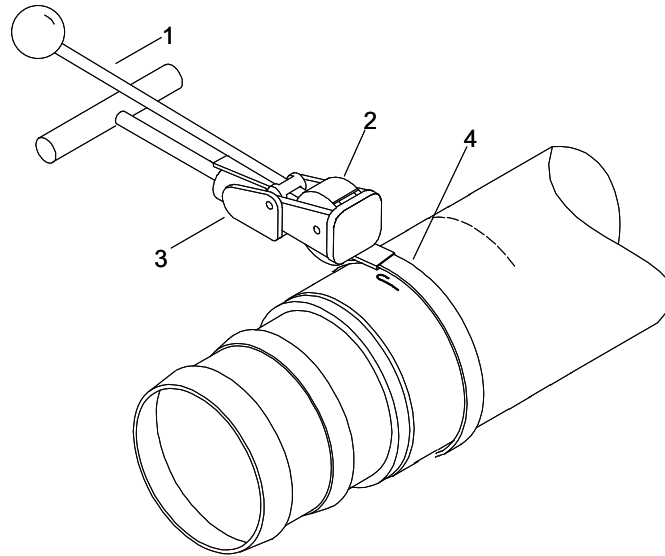

Figure 33. Hose Assembly Repair.
17. While holding the clamping tool handle (Figure 33, Item 1) in the down position, strike the center punch anvil (Figure 33, Item 2) three to four times with a hammer.
18. While holding the clamping tool handles (Figure 33, Item 1) together in the down position, raise and lower the entire clamping tool (Figure 33, Item 3) multiple times to shear the tail of the band off of the clamp (Figure 33, Item 4).
19. Using hammer, tap the edge of the distorted clamp (Figure 33, Item 4) down to a level configuration.